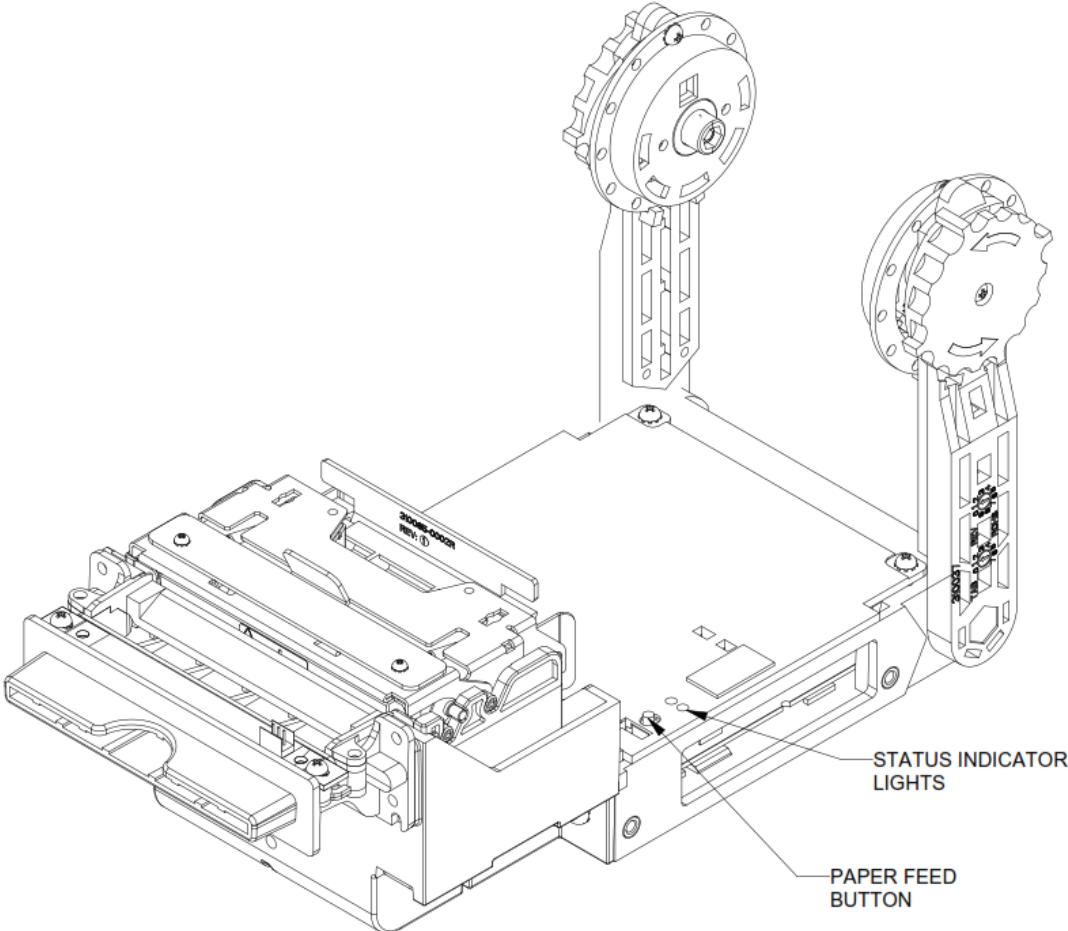

Figure 3: Paper Feed Button & Status Indicator LEDs
5. Feed the paper into the paper path, once far enough, the paper in sensor will activate and feed paper to a predetermined length. Press the paper feed button (Figure 3). The paper will advance and the paper will be cut, leaving a clean edge for the next printed ticket.
To print the test ticket, power-on the printer while pressing and holding the Paper Feed Button (Figure 3) for approximately 3 seconds. A test ticket will be printed approximately 5 seconds later. Example: